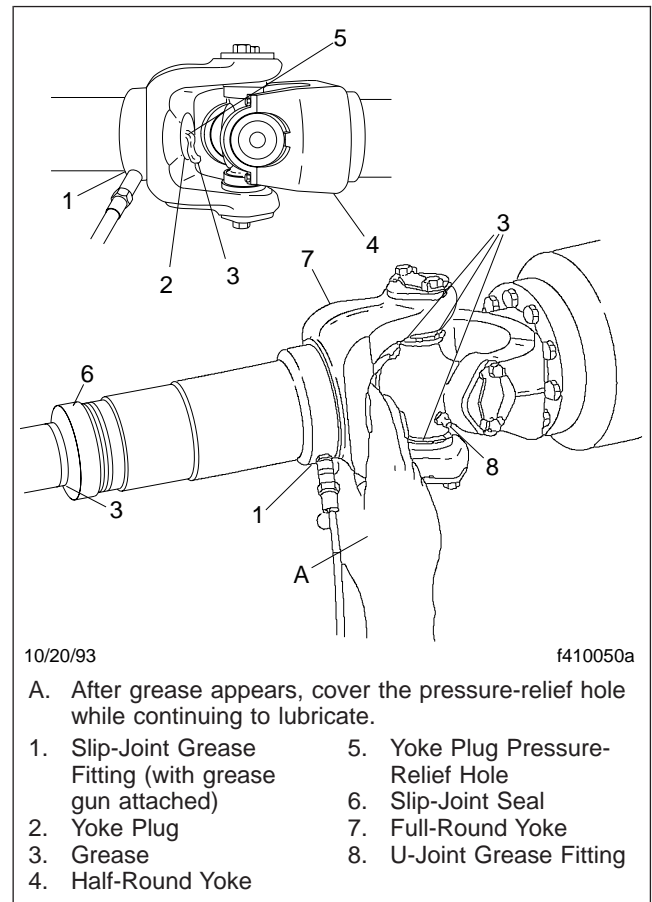

Fig. 4, Slip-Joint and U-Joint Lubricating
8. For driveshafts with slip-joints, check that the yoke plug is not loose or missing. See **Fig. 4**, Ref. 2. Replace the yoke plug if needed. If the yoke plug is missing, the splined shaft may be
1. Wipe all old grease and dirt from each U-joint grease fitting. See **Fig. 4**, Ref. 8.
1. Wipe all old grease and dirt from the slip-joint grease fitting. See **Fig. 4**, Ref. 1.
2. Use a hand-type grease gun or a high-pressure gun with a low-pressure adapter, to lubricate the slip-joint. Using lithium 12 hydroxy stearate grease (NLGI grade 1 or 2, with EP additives), lubricate until fresh grease appears at the pressure-relief hole in the yoke plug. Then cover the relief hole with your finger, while continuing to lubricate until fresh grease appears at the slip-joint seal (see **Fig. 4**, Ref. 6). This ensures complete lubrication of the splines.